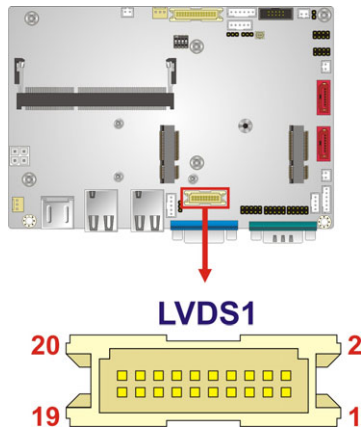

Figure 3-10: LVDS1 Connector Location
- CN Location:** See **Figure 3-10**